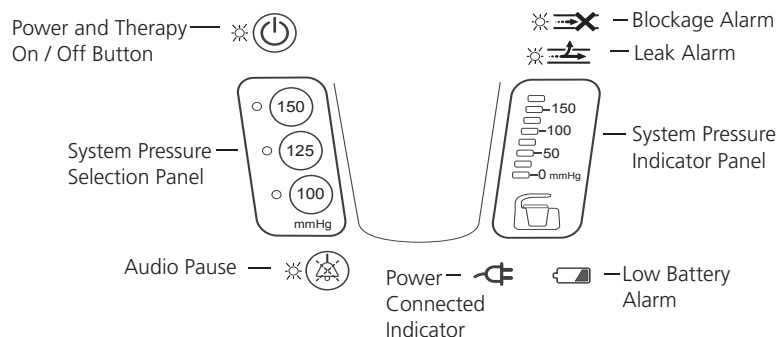

Fig. 2
2. Gently place Visceral Protective Layer over the open abdominal cavity (Fig. 2).
3. Plug ABThera™ power cord into AC wall outlet. Power Connected Indicator on the User Interface will illuminate with a blue backlight (Fig. 2).
5. Push the desired pressure on the system pressure selection panel (Fig. 2). A green light next to the selection will illuminate.